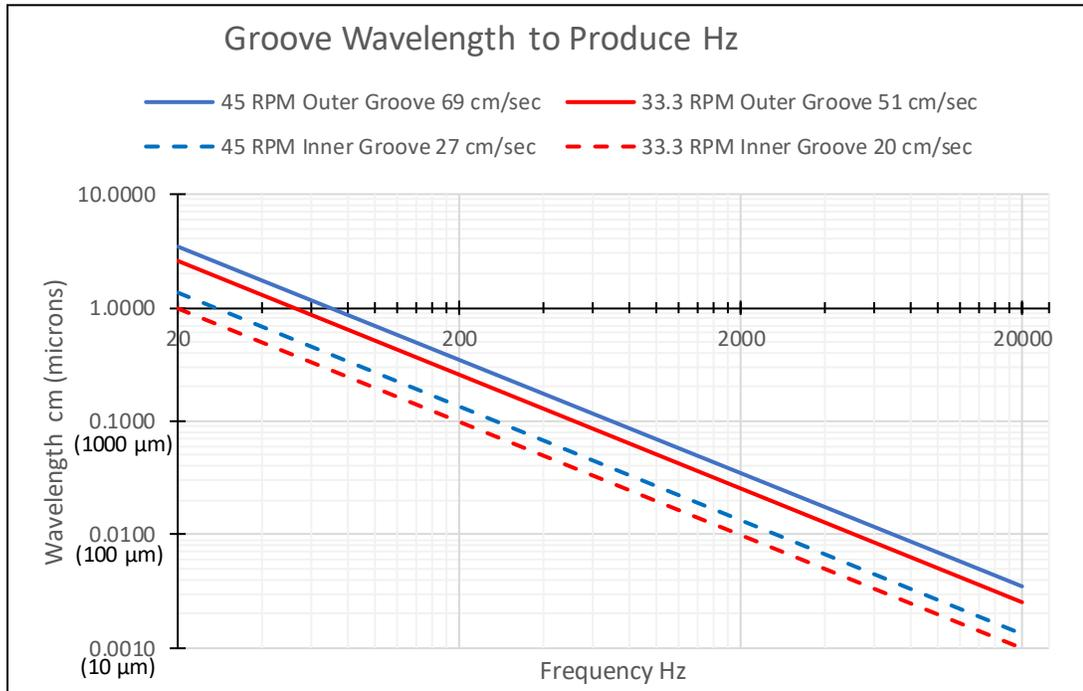

Figure 42 – Record Groove Wavelength to Produce Hz
XI.4.1 While **CHAPTER I. VINYL RECORD CLEANING CHALLENGES:** summarized the groove dimensions and geometry, very little detail was provided. The details of the groove geometry and the dynamic relationship of the stylus to that geometry can be affected by the record cleanliness. The lateral and vertical displacement defines the signal amplitude/output. The record spinning at ~33.333 revolutions per minute (rpm) = 0.56 revolutions per second (rps); the linear (tangential) velocity will vary from 51 cm/sec (20 inches/sec) at the outer-most groove to 20 cm/sec (7.9 inches/sec) at the inner-most groove. **Figure 42** shows simplistically the groove modulation wavelength (ridge to ridge distance) to reproduce various frequencies between the outer and inner-most grooves for 12-inch, 33.333 rpm and 45 rpm records. At the highest frequency the values can be as small as 10 microns for a 33.333 rpm record at the inner groove.
XI.4.5.a The maximum amplitude is generally associated with how wide the groove can be before cutting into the groove next to it. Recalling **Figure 42**, as the frequency increases and as the stylus tracks closer to the inner groove, the stylus has less time to travel from rest to the modulation peak amplitude and therefore higher (peak) velocities occur. The practical limit of peak velocity occurs when the peak velocity of the modulation equals the linear (tangential) velocity of the groove (the speed at which the record passes the stylus). Exceed peak velocity and the “...groove swings become so sharp that the stylus tends to ride up over them instead of traveling around them. (39)”